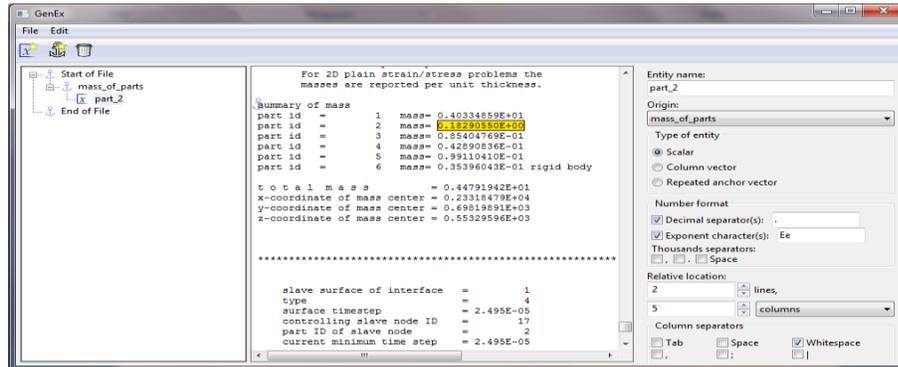

Figure 3: Entity selection in GenEx
10. Now an entity can be defined under this anchor using *New Entry* option. Since responses are scalar values, the ‘*Type of Entity*’ is selected as ‘*Scalar*’. The relative location of this entity is adjusted to obtain the value of mass of part 2. For example, in the *sample_d3hsp* file, the relative location of mass of part 2 with respect to the defined anchor is given by 2nd line, 5th column. The final value to be extracted is highlighted on the data file as shown in figure 3.